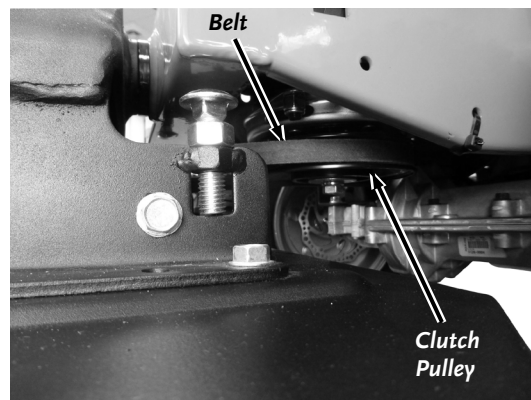

Figure 29
3. Push the belt in toward the Power Unit and the belt will fall off the Clutch Pulley (**Figure 29**).
6. Wrap the Belt around the Clutch Pulley under the Power Unit (**Figure 29**).